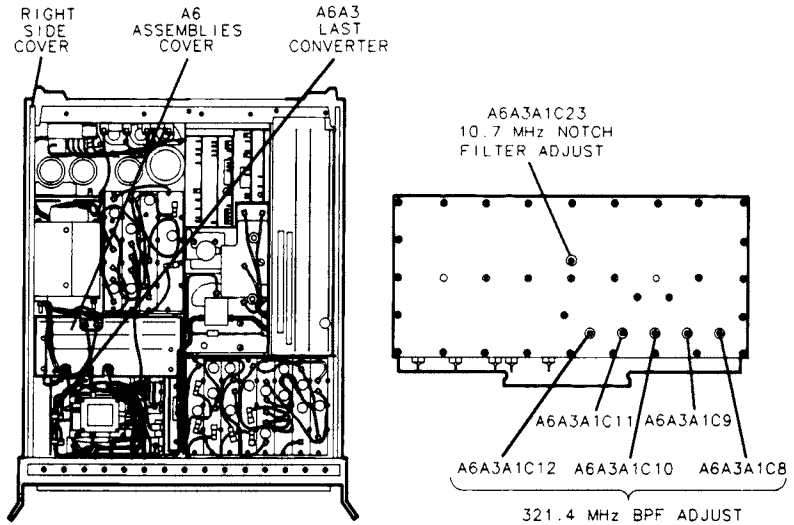

Figure 3-88. Location of Last Converter Adjustments
6. Adjust the five variable capacitors A6A3A1C8, A6A3A1C9, A6A3A1C10, A6A3A1C11, and A6A3A1C12 in the 321.4 MHz Bandpass Filter for maximum capacitance. The capacitors are visible through five evenly-spaced, unlabeled access holes in the bottom cover of the A6A3 Last Converter Assembly; position each capacitor with its adjustment slot vertical and plates fully meshed. Refer to Figure 3-88 for the location of A6A3A1C8, A6A3A1C9, A6A3A1C10, A6A3A1C11, and A6A3A1C12.
22. Locate the 10.7 MHz Notch Filter adjustment, visible through the remaining unlabeled access hole near the center of the bottom cover of the A6A3 Last Converter Assembly (refer to Figure 3-88). Adjust A6A3A1C23 to minimize the amplitude of the 10.7 MHz signal displayed on the second spectrum analyzer.